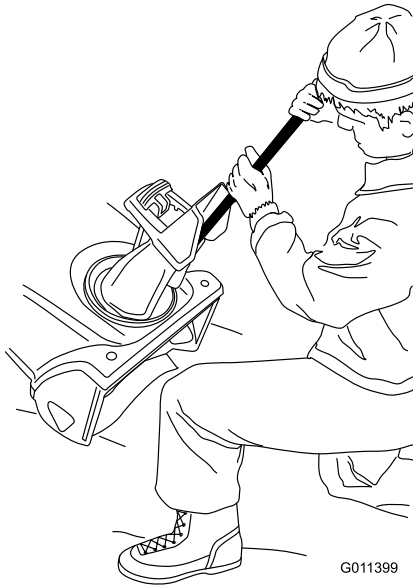

Figure 24
- Always use a clean-out tool, not your hands (Figure 24).